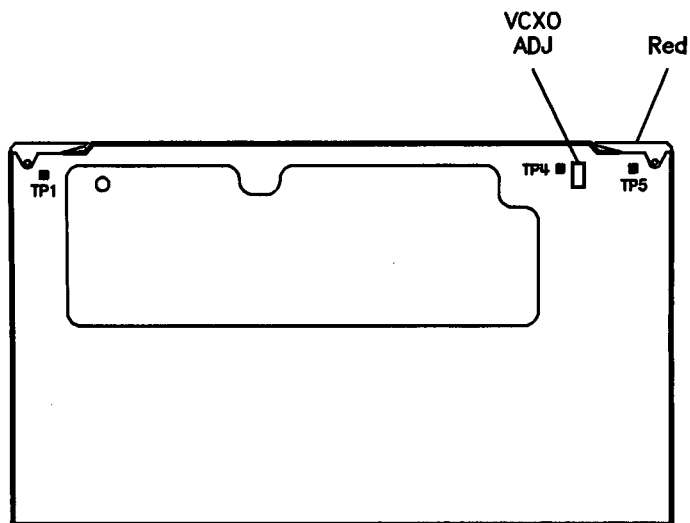

Figure 5–8. VCXO Adjustment Location
1. Connect port 1 of the analyzer to the frequency counter input (see Figure 5–5). Press **RECALL**